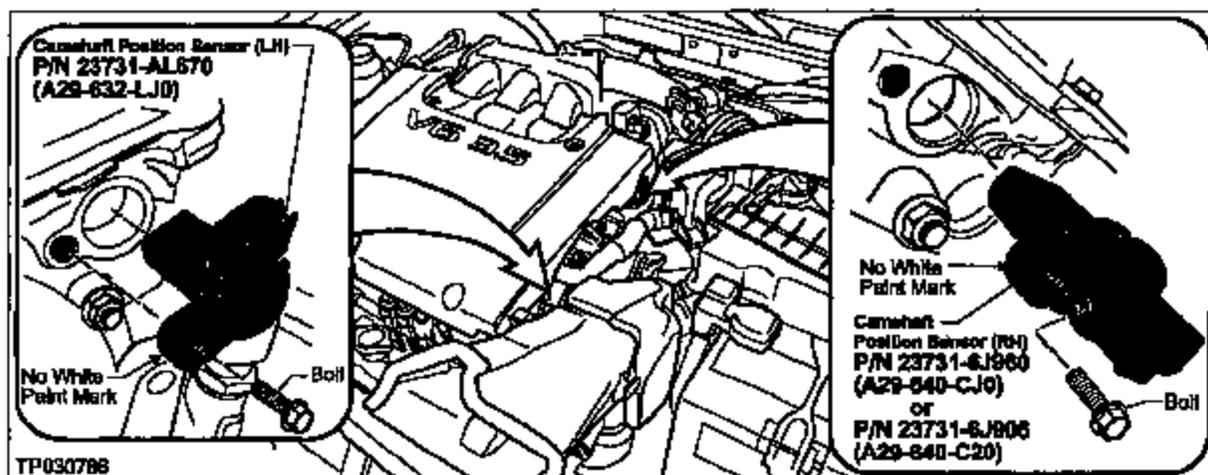

Figure 1
3. Locate the Camshaft Position Sensors (see Figure 1).